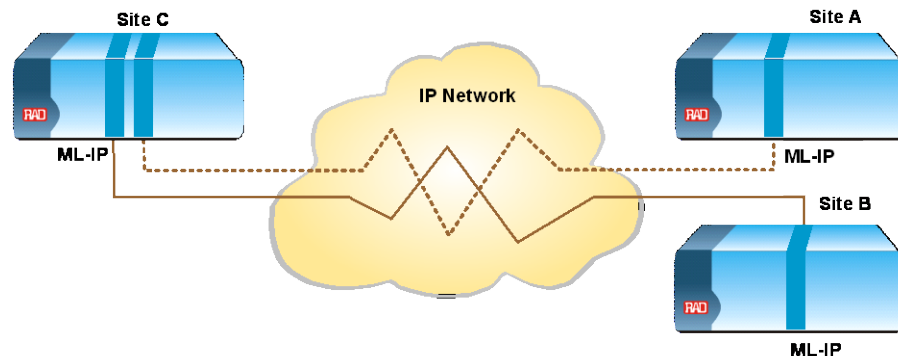

Figure 9-23. Chassis (Site), Module, Link and IP Connection Redundancy
- Chassis redundancy at the central site versus module+path redundancy at the remote site (see Figure 9-23).
In these applications, the ML-IP modules must be installed in different chassis, possibly located at different sites. This type of redundancy is usually combined with another redundancy option. For example, in the configuration shown in Figure 9-23, central site with chassis redundancy is operating opposite the remote sites with path+module redundancy.
In the configuration shown in Figure 9-23, two different ML-IP uplink ports, located on different chassis/sites, are used. One of the bundles configured as a redundancy pair is defined on one ML-IP module located on Site A, while the other bundle of the pair is defined on the another ML-IP module located on Site B.